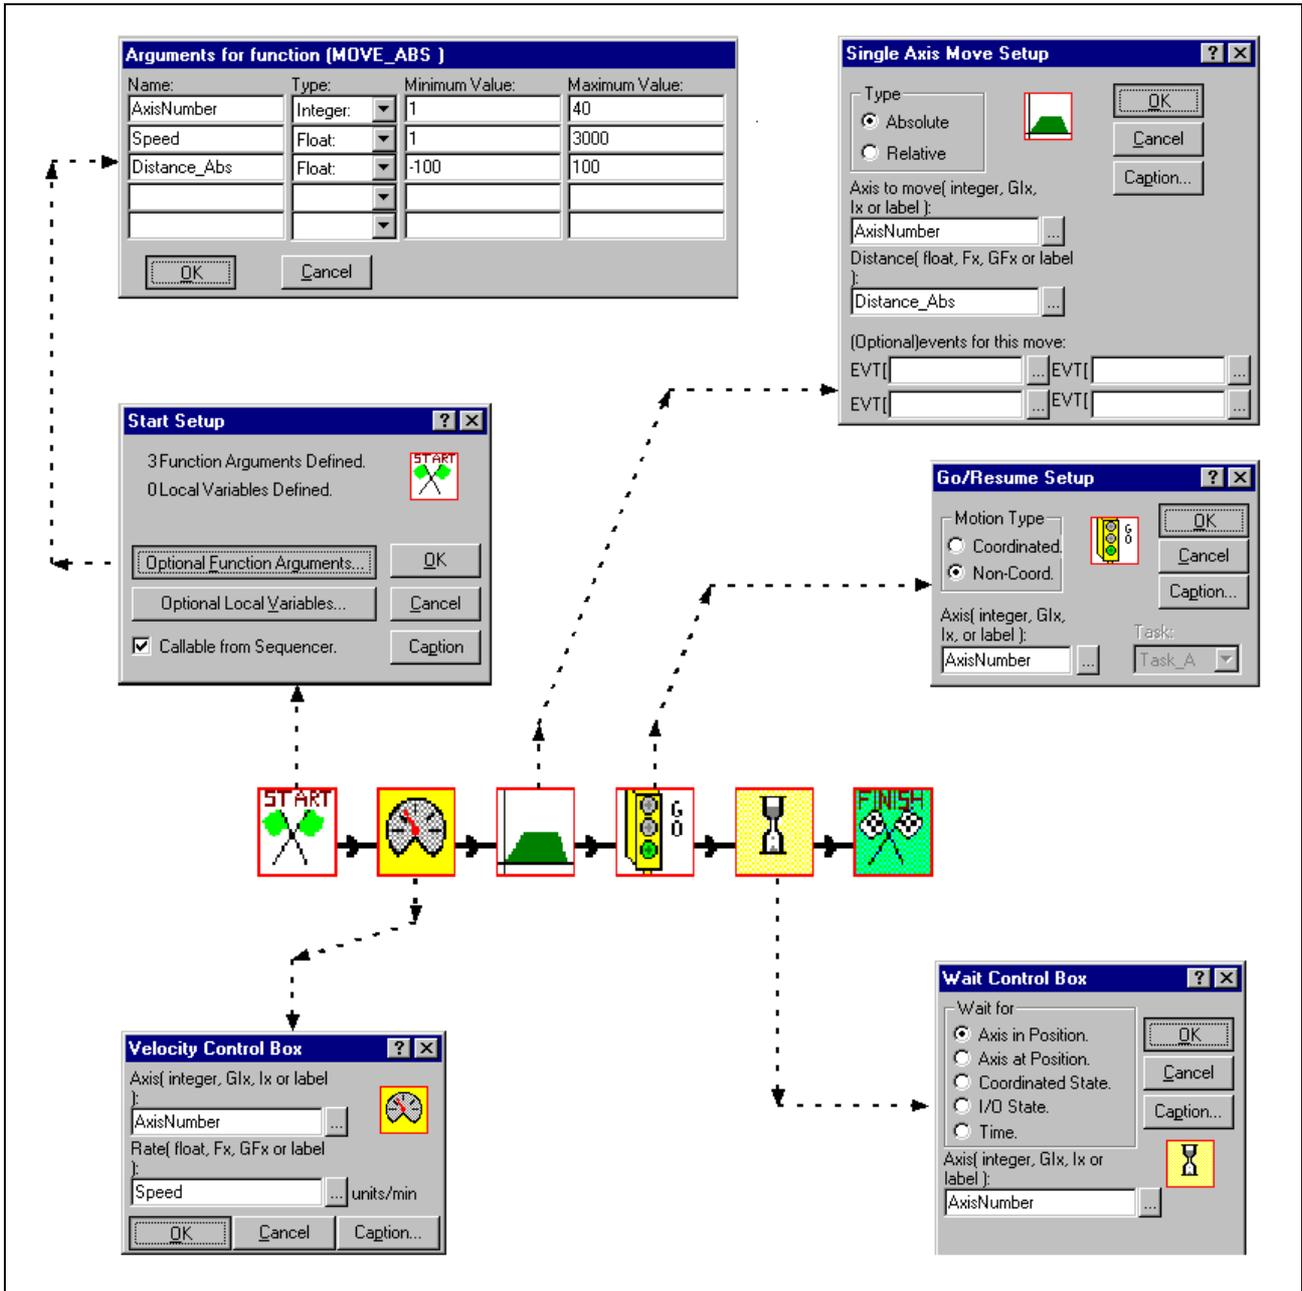

Figure D-2: MOVE_ABS subroutine
3. Create the subroutine illustrated below according to the selections and values given in their corresponding dialog boxes. Refer to Program Layout - Function / Subroutine - MOVE_ABS, Figure D-2.